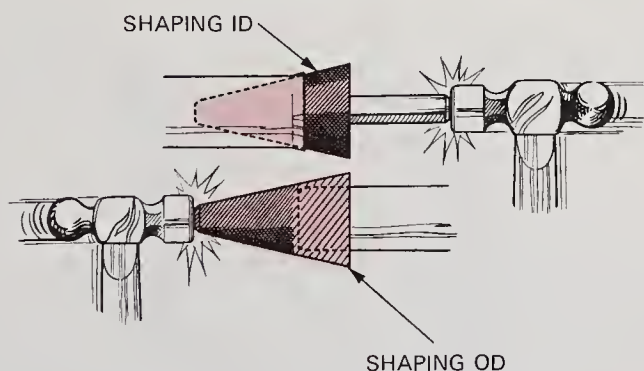

Fig. 25-10. Pipe shaper will round dented pipe ends. (Lisle)
6. A *pipe expander* should be used to enlarge pipe ends as needed, Fig. 25-9. A *pipe shaper* can be used to straighten dented pipe ends, Fig. 25-10.